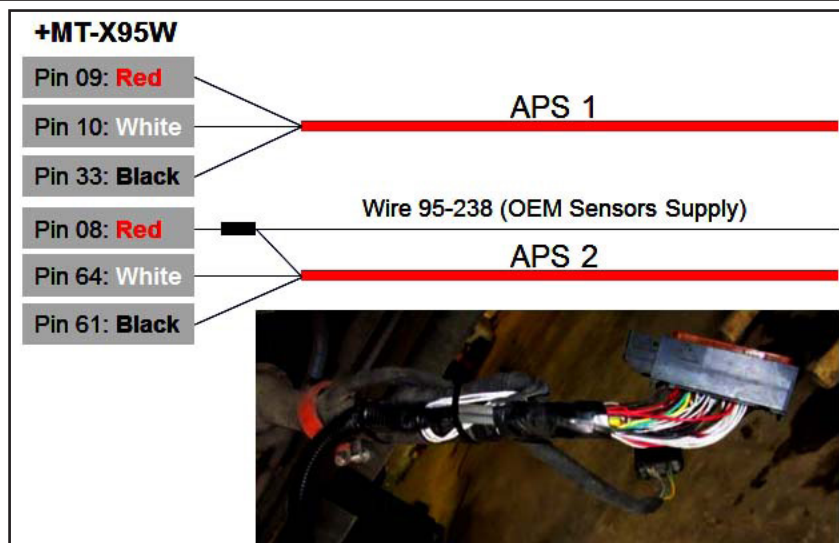

Figure 34 - Positions to be Used for APS 1 and APS 2 Cable Segment Connections
2.21. Slide in the two heat shrink tubing segments provided with the front to back cable wire kit over the end of each APS cable segment. Use a heat gun to shrink the tubing at the extremity of each APS cable segment. Insert the terminals from the front-to-back cable into the correct ECM connector positions. Use the wire color and wire label as identification. For APS 1, use positions 9, 10 and 33. For APS 2, use positions 61 and 64 to install five of the six new wires of the front-to-back cable (see Figure 34).